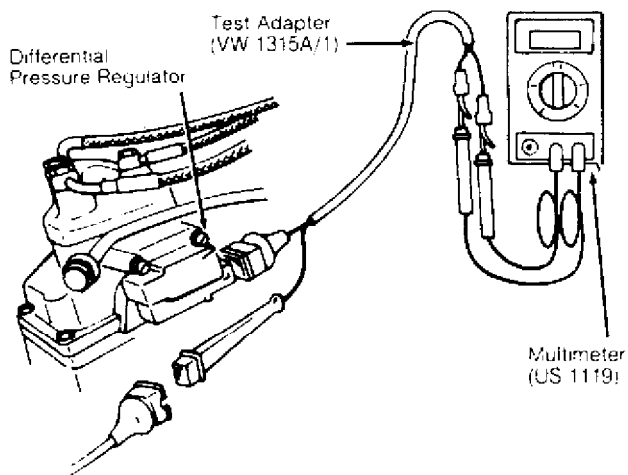

Fig. 4: Testing Oxygen (O2) Sensor (Except Vanagon)
1) Ensure exhaust system is not leaking. Warm engine to normal operating temperature with all accessories off. Remove differential pressure regulator connector. Connect Wiring Harness Adapter (VW 1315 A/1) in series. See Fig. 4.